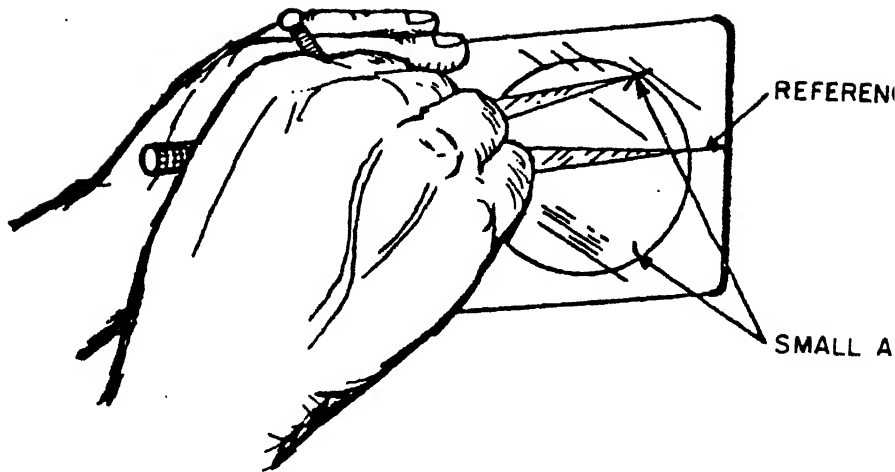

FIGURE 8
- . Using the dividers, scribe a small arc that intersects the circle on both sides of the reference line. See figure 8.